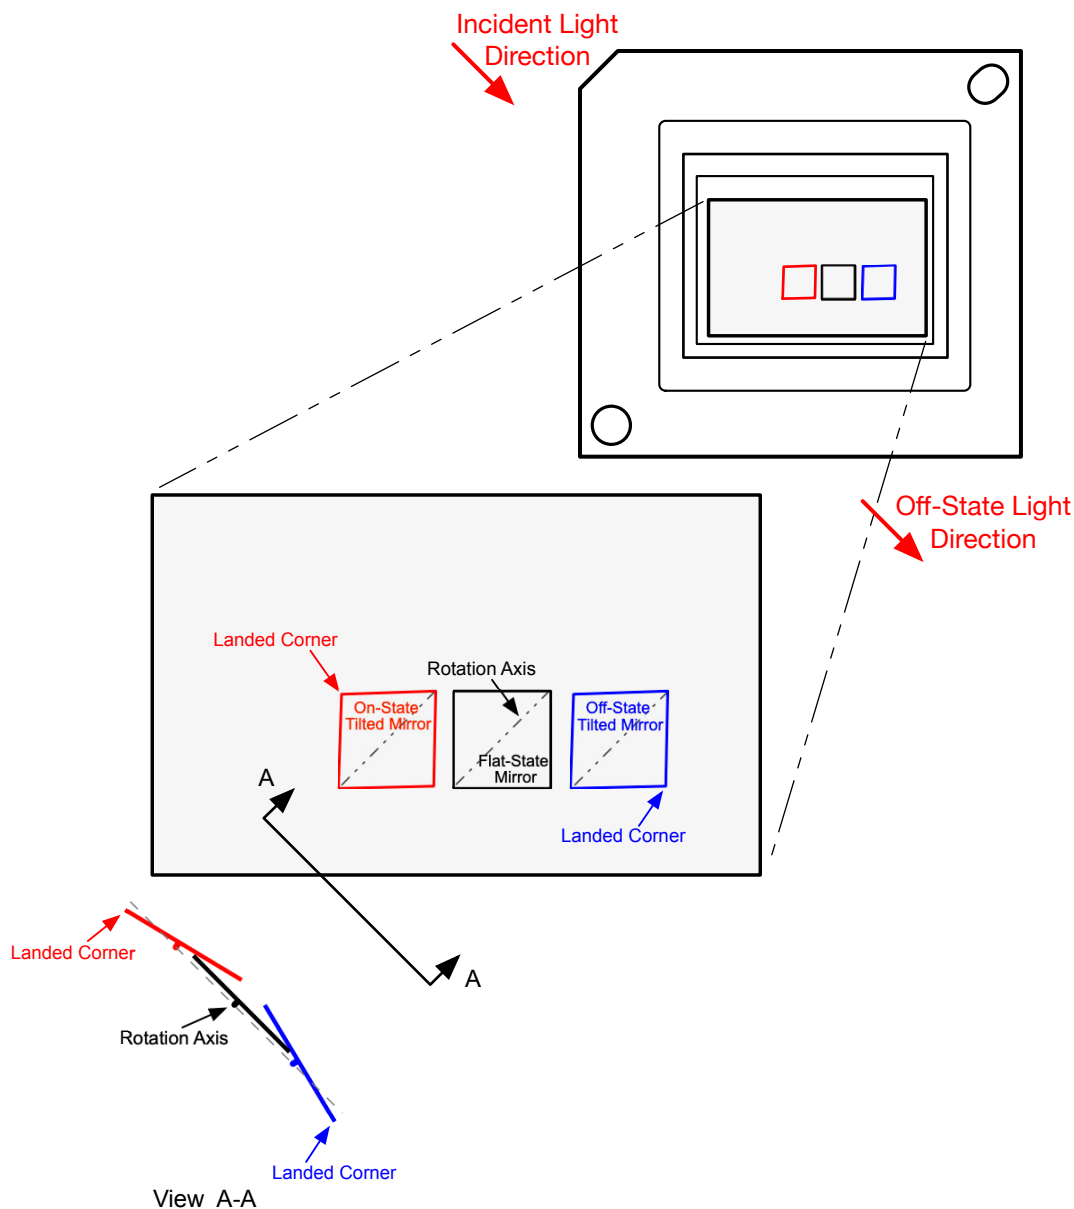

Figure 6-11. Micromirror Landed Orientation and Tilt
- (1) Measured relative to the plane formed by the overall micromirror array.
- (2) Additional variation exists between the micromirror array and the package datums.
- (3) Represents the variation that can occur between any two individual micromirrors, located on the same device or located on different devices.
- (4) For some applications, it is critical to account for the micromirror tilt angle variation in the overall system optical design. With some system optical designs, the micromirror tilt angle variation within a device may result in perceivable non-uniformities in the light field reflected from the micromirror array. With some system optical designs, the micromirror tilt angle variation between devices may result in colorimetry variations, system efficiency variations or system contrast variations.
- (5) Refer to Figure 6-11.
- (6) The time required for a micromirror to nominally transition from one landed state to the opposite landed state.
- (7) The minimum time between successive transitions of a micromirror.
- (8) Conditions of Acceptance: all DMD image performance returns are evaluated using the following projected image test conditions: